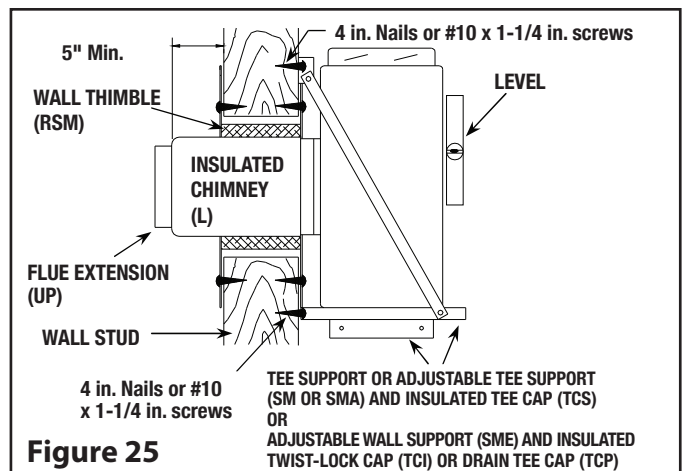

Figure 25
Step 4. This step will require 2 people: (see Figure 25). Insert the chimney length of this tee-support assembly into the hole in the wall. Using a level, ensure the tee is vertical, then attach the support to the wall using (8) N^o. 10 x 1 - 1/4" wood screws or 4" spiral nails.
Step 6. Attach the flue extension to the horizontal chimney length using the three metal screws provided (see Figure 25).